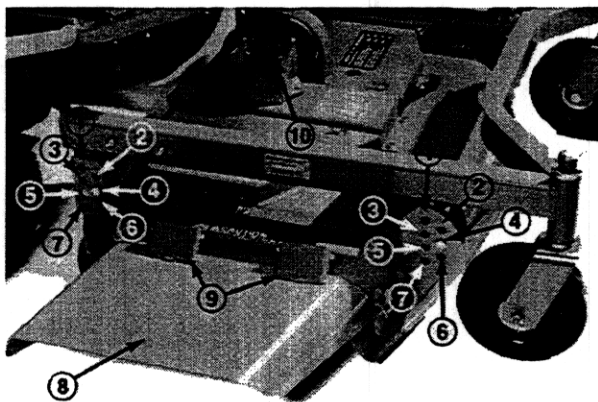

Figure 1
The height of cut is adjustable from 1 to 4 inches (25 to 102 mm) in 1/2 inch (13 mm) increments by relocating four clevis pins in different hole locations in the brackets at each corner of the cutting unit (Fig. 1).
The grass deflector (Fig. 1) is a safety device that diverts grass and other foreign objects being discharged downward. Without the deflector mounted on the cutting unit, and the spring loaded hinges holding deflector in its down position, the blades could hurl grass and foreign objects out the discharge opening with enough force to cause injury or property damage. If the grass deflector or spring hinges are worn, broken or damaged, repair or replace the affected part(s). Never operate the cutting unit without the deflector mounted on the cutting unit. Always be sure the deflector chute is in the lowest possible position.
2. After every 50 hours of operation, lower the cutting unit so the castor wheels are on a level surface. Be sure all height-of-cut pins are in the same hole locations. Clean the area around the gear box cover (Fig. 1) to prevent contaminants from entering the gear box. Remove the screws securing the cover to the gear box and remove the cover. Check the level of lubricant in the gear box. If the level is low, add SAE E.P. 90 weight oil until the oil level is up to the horizontal shaft (input) of the gear box. Check the condition of the gasket and replace it if it is damaged or worn.